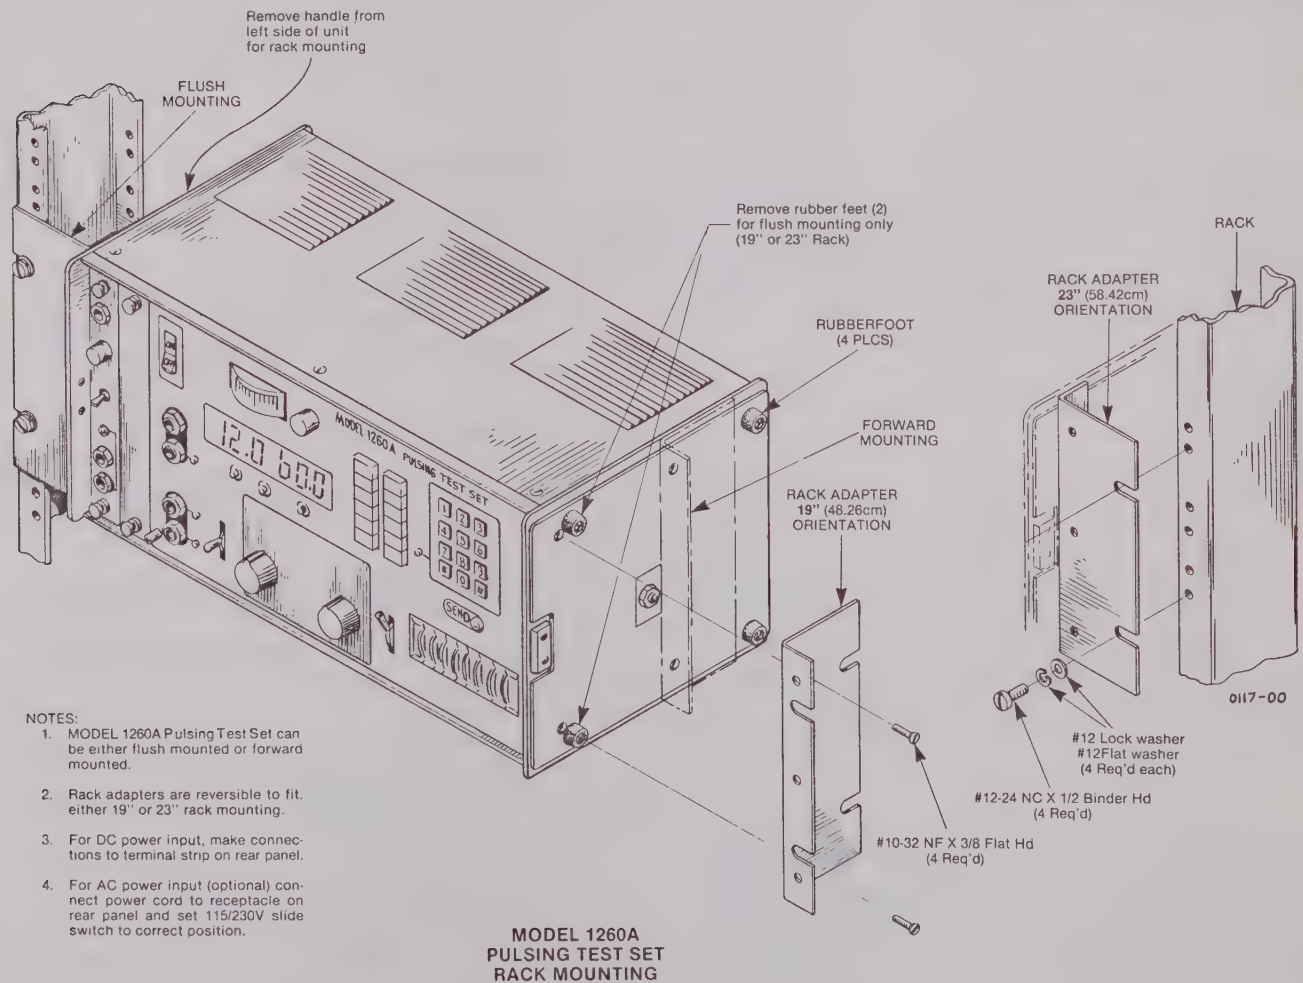

Figure 3-1. Model 1260A Pulsing Test Set Rack Mounting
3.10 The 1260A can be rack mounted or used as a portable unit. As a portable unit the set requires no installation. The 1260A comes supplied with brackets for mounting in 19-inch or 23-inch racks. Refer to Figure 3-1 and install the brackets as required to accommodate the rack being used.